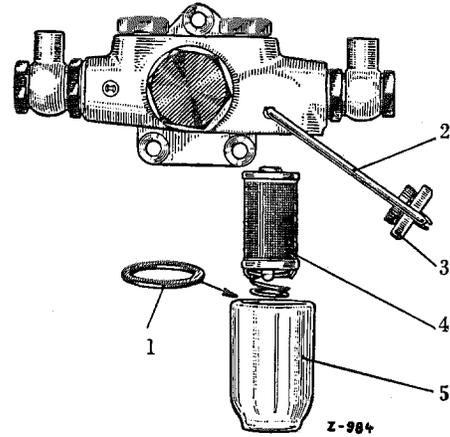

Figure 09-5/3
- b) Built-in Engine** (Feed pump with pre-filter see Figure 09-5/3).
Loosen the knurled nut (3), put aside the clamping bracket (2) and remove the housing (5). Thoroughly clean the wire gauze element (4) with brush in clean gasoline; do not use wire brush. The gasket (1) becomes hard and unserviceable after a certain time; therefore, replace the gasket in time to prevent infiltration of air! During assembly make sure that the clamping bracket is vertically seated and that the knurled nut is secured tightly (see Figure 09-5/3).